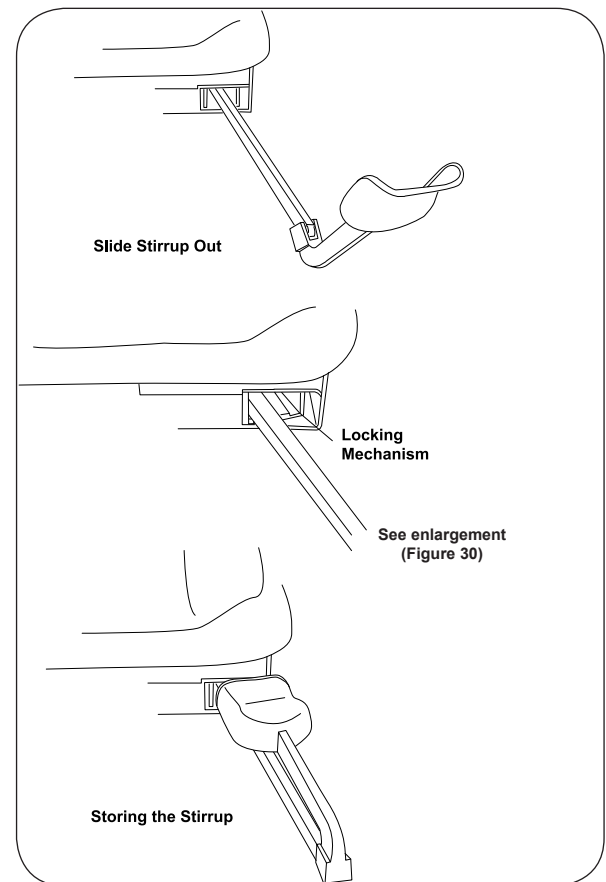

Figure 29. Stirrups
Operating the Stirrups (Figure 29)
2. When the desired position is achieved, lower the stirrup to engage the lateral locking mechanism (Figures 29 and 30).